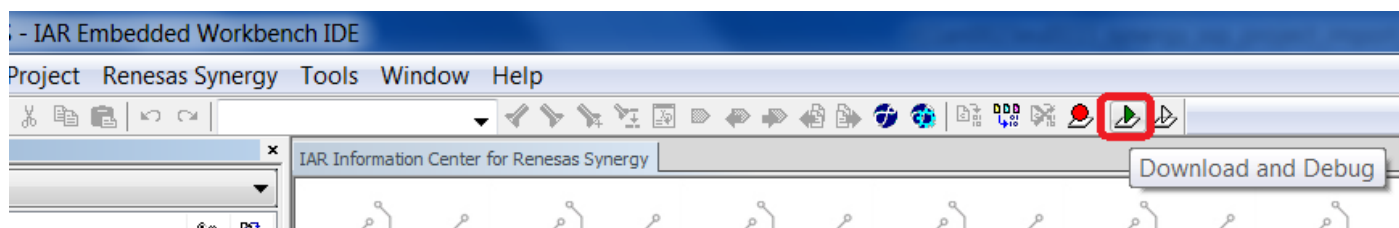

Figure 1.14 Debugger Setup 2
3. Press the **CTRL+D** or **Download and Debug** button (Figure 1.14) to start debugging.